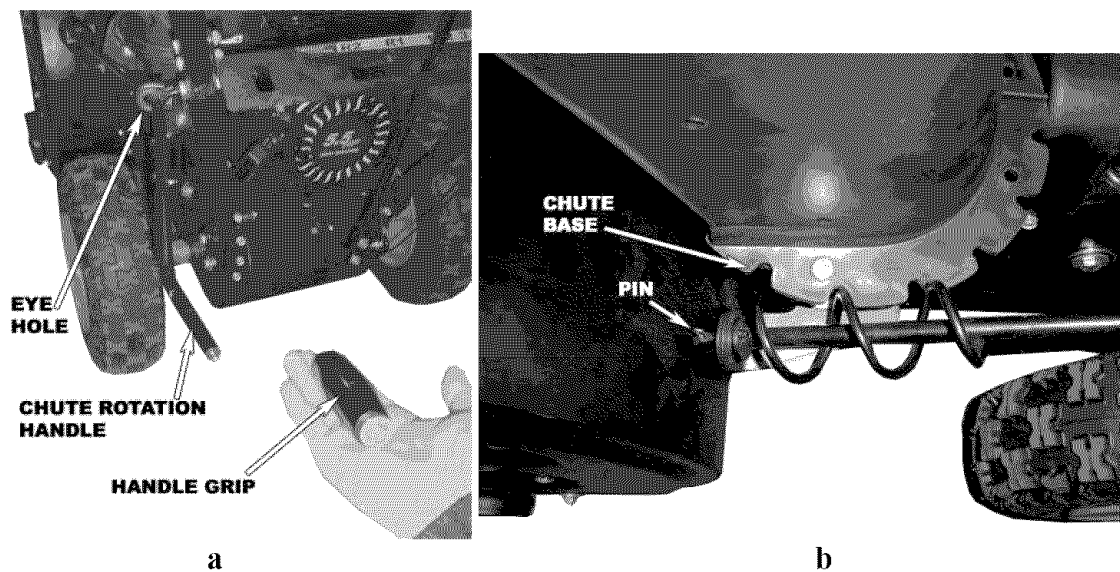

Figure 4- Chute Rotation Handle Assembly
1. Remove the handle grip from the handle by removing the screw at the end (see figure 4).
2. Slide the end of the chute rotation handle, with the grip removed, through the eye hole on the snow thrower handle as shown in figure 4 a.